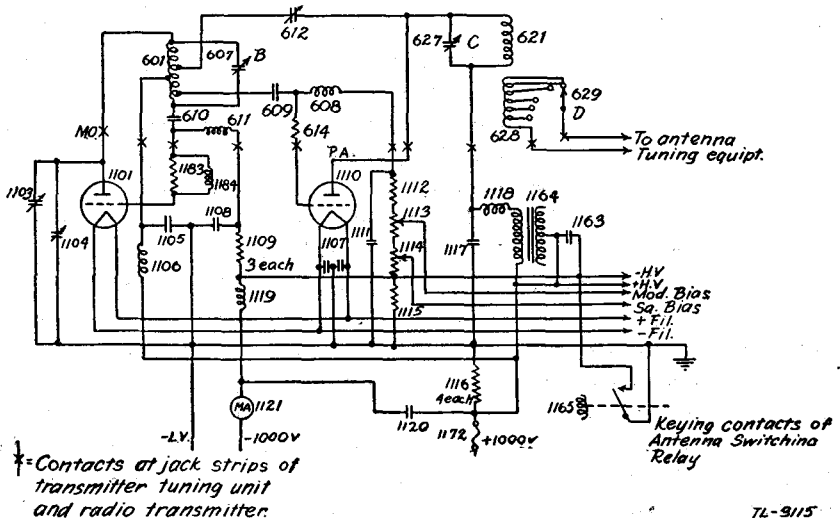
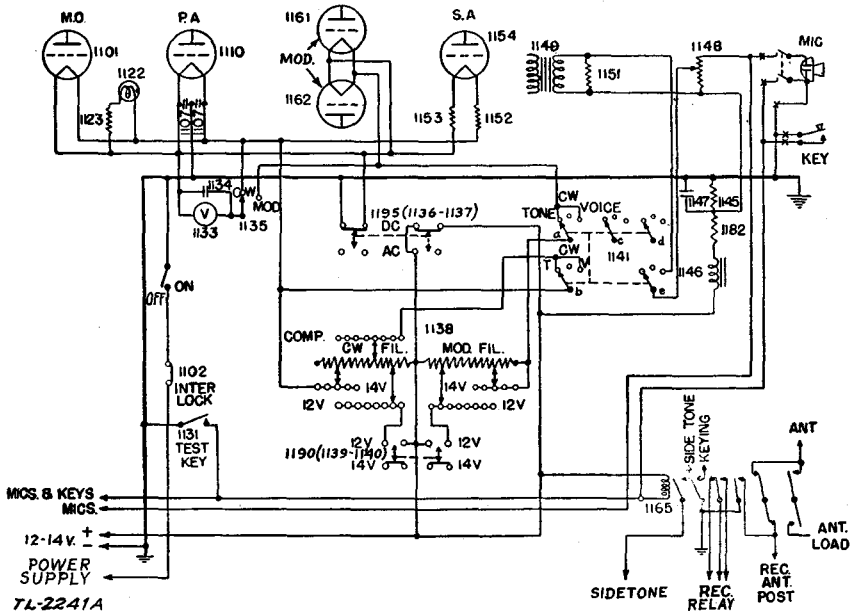

FIGURE 12.—Radio transmitter BC-191-(*) , radio frequency and high voltage circuits—functional diagram.
FIGURE 17.—Radio transmitter BC-191-(*) , low voltage and control circuits, d-c operation—functional diagram.
27. Radio transmitters BC-191-(*) and transmitter tuning units TU-3-A or -B, TU-5 to TU-10-A or -B, TU-22-A or -B and TU-26-A or -B.—*a. Oscillator circuit.*—The master oscillator circuit is schematically illustrated in figure 12. The oscillatory
circuit by which the frequency of the transmitter is controlled is contained in the transmitter tuning unit being used. When the transmitter tuning unit TU-6-A or -B is employed and the BAND CHANGE SWITCH A is in position 2 (fig. 20), the oscillatory circuit comprises the tapped coil 601 and the variable capacitor 607. Moving the BAND CHANGE SWITCH A to position 1 places the fixed capacitors 603 and 613 in parallel with the variable capacitor 607 and enables this tuning unit to cover the lower ranges of its frequency band. Continuous adjustment of frequency is accomplished by means of the variable capacitor 607, control B. Controls, coil, and capacitors of the other transmitter tuning units (fig. 20) are arranged for similar operation on either one, three, or four bands, depending on the unit. In each tuning unit, both coils and capacitors are thermally compensated to reduce frequency variation due to normal changes in air temperature. Subsequent discussion of the master oscillator circuit is limited to the circuit shown in figure 12, which results when transmitter tuning unit TU-6-A or -B is used with BAND CHANGE SWITCH A on position 2. The radio frequency voltage across the lower half of the coil 601 provides the master oscillator grid excitation voltage. The coil is also tapped an equal number of turns on either side of the center tap. The grid excitation voltage for the power amplifier is furnished through capacitor 609. The master oscillator grid excitation voltage is obtained through capacitor 610, which also blocks the d-c plate voltage from the grid circuit. Resistor 1183 and choke 1184, in parallel, are connected in series with the grid of the master oscillator tube to prevent the generation of parasitic oscillations. The plate voltage for the master oscillator is fed to the tuning unit through radio frequency choke 1106, which, with capacitor 1105, prevents radio frequency current from flowing into the power supply. Resistors 1109 (three in series) function as the master oscillator grid leak which provides the required operating bias for the master oscillator tube from the rectified grid current. Part 1108 is a radio frequency bypass capacitor. Grid choke 611, in conjunction with resistors 1109, serves as the necessary d-c path from the grid to the filament, maintaining at the same time a high impedance to the radio frequency grid excitation voltage. Capacitor 1104 is the calibration reset by means of which the master oscillator tuning circuit can be adjusted to correspond to the calibration chart whenever the oscillator tube is changed. This capacitor is adjusted through a small port in the front panel to the right of TEST KEY. Capacitor 1103 is a sealed capacitor which provides the necessary thermal compensation for any frequency drift normally
b. Power amplifier circuit.—(1) The power amplifier circuit is schematically illustrated in conjunction with the master oscillator circuit in figure 12. The power amplifier plate tank circuit, by means of which the plate load impedance is adjusted, is contained in the transmitter tuning unit. When the transmitter tuning unit TU-6-A or -B is employed and BAND CHANGE SWITCH A is in position 2, the plate tank circuit comprises the coil 621 and variable capacitor 627. Moving BAND CHANGE SWITCH A to position 1 places
(2) Subsequent discussion of the power amplifier circuit is limited to the circuit shown in figure 12, which results when the transmitter tuning unit TU-6-A or -B is used with BAND CHANGE SWITCH A on position 2. The power amplifier grid receives excitation through capacitor 609 from the master oscillator tank coil. Capacitor 609 also keeps the master oscillator d-c plate voltage from the
f. Keying.—Keying of the transmitter (fig. 12) is controlled by means of resistor 1115, one end of which is connected to negative high voltage and to all grid circuit returns, and the other end to negative filament or ground potential. The keying contacts of relay 1165 are connected across this resistor. When the keying contacts are open, the voltage drop across 1115 is such that the grids of the tubes are negatively biased beyond plate current cut off, stopping oscillation. When these keying contacts are closed, resistor 1115 is shorted and normal grid biases on all tubes are reestablished. Operation of the keying contacts is accomplished by supplying power to the antenna switching relay 1165. (See fig. 17.) Power is supplied to this relay when the key, test key, or the microphone button switch is operated. Operation of the antenna switching relay performs the following additional functions:
- (1) Disconnects the receiving equipment from the antenna and grounds the receiver input circuit.
- (2) Connects the transmitter to the antenna circuit.
- (3) Keys the side tone circuit.
(2) Under the condition of d-c filament supply (fig. 17), resistor 1138 is used to adjust the filament potential to approximately 10 volts, as indicated by the red line on voltmeter 1133. The midtap of this resistor is connected to the power source. One side of the resistor is used for the adjustment of the filaments of the tubes used for continuous wave operation and the other side for the modulator tubes.
(3) Provision is made to short out a section of the continuous wave filament resistor by means of one section of switch 1141 (figs. 13 and 17) to compensate for the increased line drop which occurs when the modulator filaments are lighted. This arrangement makes it unnecessary to readjust the voltages when changing from continuous wave to tone or voice operation. A portion of the resistor may be short-circuited by the 12V. 14.2V. switch 1190 (1139, 1140) (fig. 17), so that the correct filament voltage may be applied both when the power supply storage battery is being charged and when it is not being charged. Switch 1135 connects filament voltmeter 1133 to either the continuous wave or modulator tube filaments. If the filaments are operated from an a-c source, resistor 1138 serves only as a compensating resistor to eliminate the need for readjusting the filament rheostat when changing from continuous wave to tone or voice transmission.